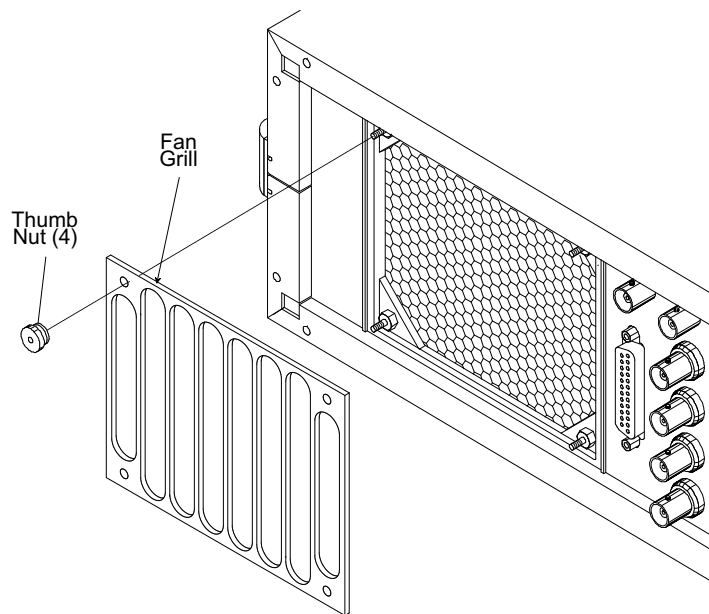

Figure 1-3. Removing/Replacing the Fan Grill
- Step 1** Remove the four thumb nuts holding the fan grill in place (Figure 1-3).